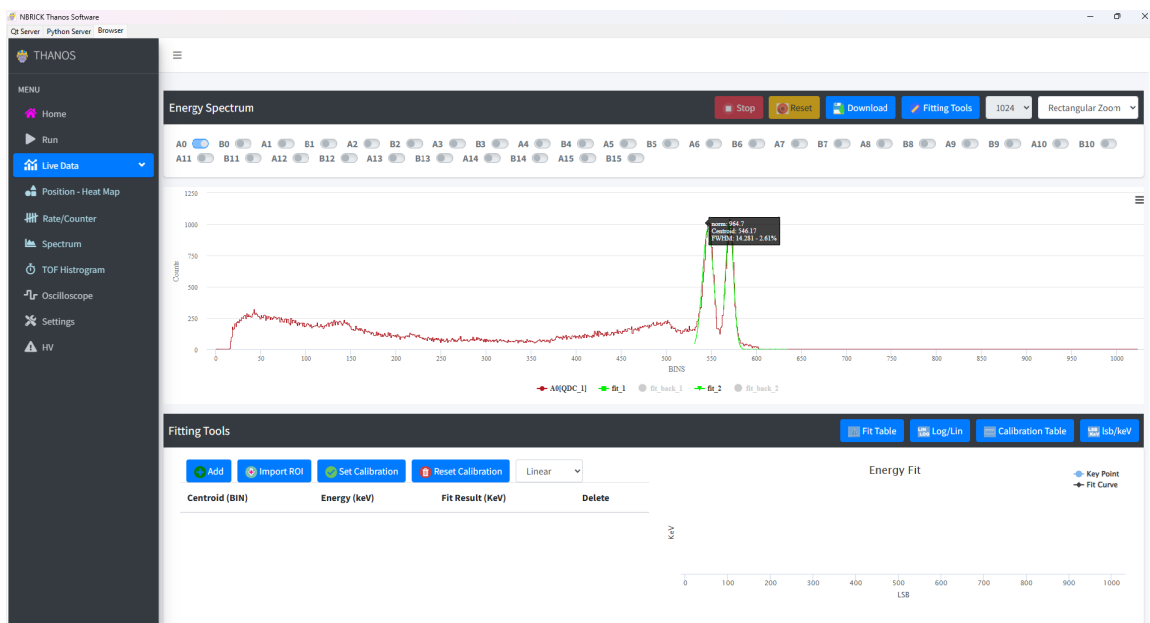

Fig. 4.49: Thanos Calibration Table dashboard.
- **Calibration Table:** allows users to define a calibration function to convert data between LSB (Least Significant Bit) and keV unit (Fig. 4.49).
The "Calibration Table" allows users to define a calibration to convert values between LSB units to keV units (Fig. 4.49 shows an example with two spectra).